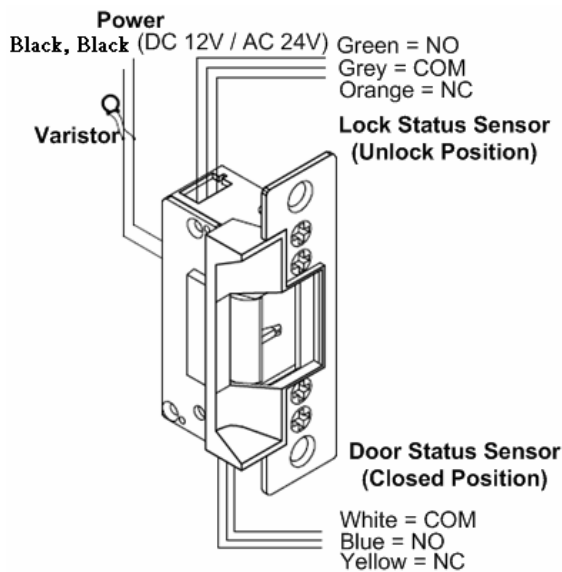

Figure 3
7. To prevent strike from spike, connect the Varistor between the input power wires (Figure 3).